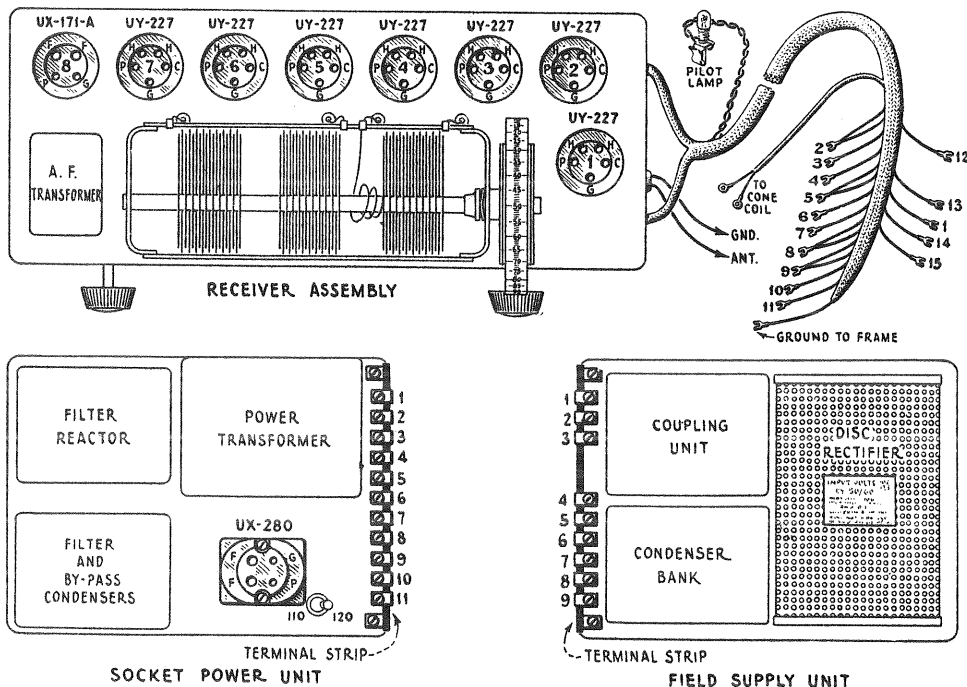
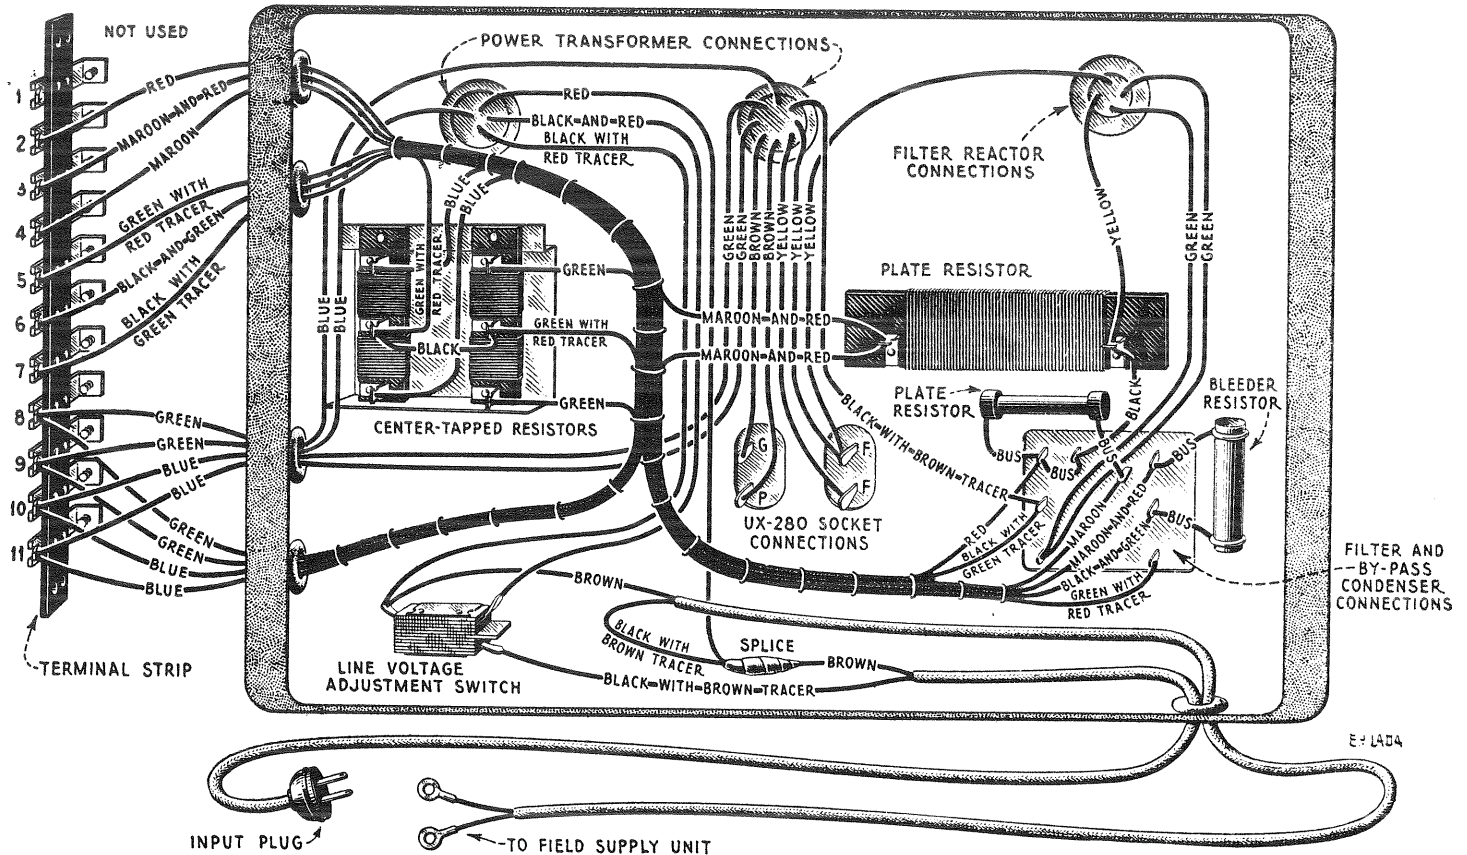
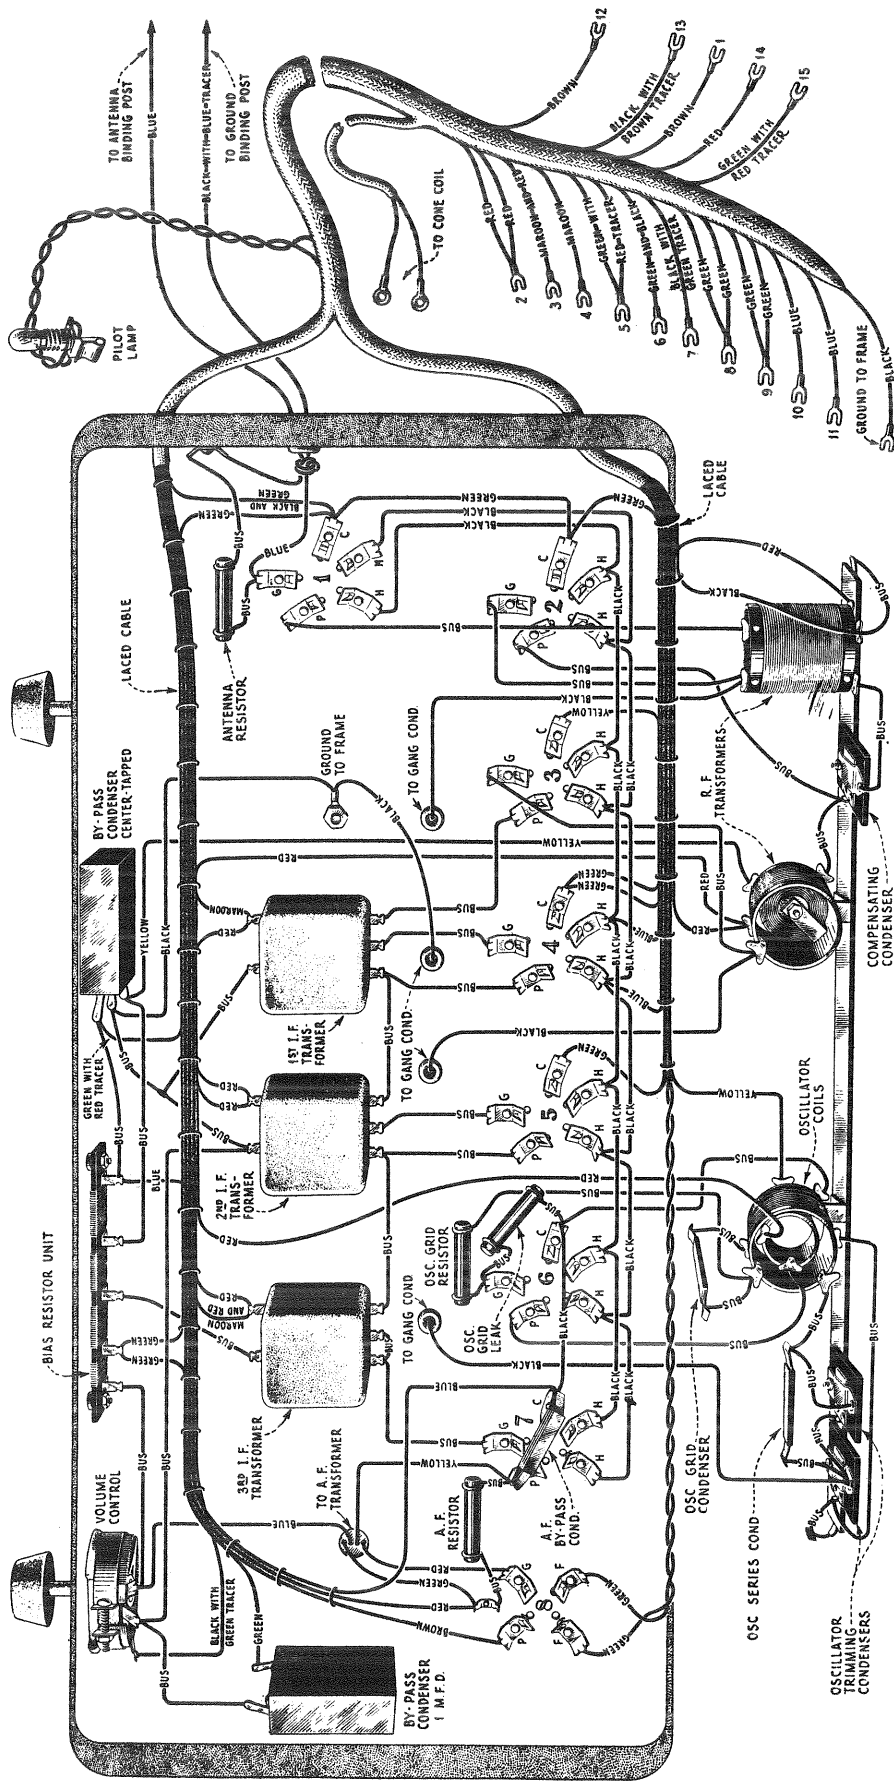

Figure 18—Radiotron socket contacts, location of parts, connection lugs and terminal strips of the socket power and field supply units
Figure 19—Continuity wiring diagram of the socket power unit
Figure 20—Continuity wiring diagram of receiver
A simple method of locating a shorted transformer is to use a resistance bridge or the resistance measuring method described in "Radiola 32 Service Notes." The approximate transformer primary D.C. resistance is 20 ohms; secondary 100 ohms. Due to the circuit arrangement it will only be possible to get a reading of 50 ohms on the secondary as the end connection goes to the neutralizing condenser and the reading must be made at the center tap connection. This test can be made from the underside of the chassis. (See wiring continuity diagram, Figure 20.)
After the I.F. transformers are properly tuned and neutralized they should perform at their maximum efficiency. It is a good plan to check the adjustments of the two oscillator trimming condensers (See Figure 20) at this point. The correct method
A pair of headphones with at least $4\frac{1}{2}$ volts in series, or a voltmeter with sufficient voltage to give a full scale deflection when connected across the battery terminals should be used in making these tests. The receiver Radiotron sockets, numbers and lugs used in these tests are shown in Figure 18. The receiver continuity wiring diagram is illustrated in Figure 20. The S.P.U. and field supply unit terminal numbers are shown in Figures 19 and 21.
See Figure 18 for cable lugs, terminals, and Radiotron socket contacts
The following voltages taken at each Radiotron Socket with the receiver in operating condition should prove of value when checking is done with test sets such as the Weston Model 537 Type 2 or others giving similar readings. The plate currents shown are not necessarily accurate for each tube, as the cable in the test set will cause some circuits to oscillate, due to its added capacity. Small variations of voltages will be caused by different tubes and line voltages. Therefore the following values must be taken as approximately those that will be found under varying conditions. These readings are equally applicable to Radiola 60. The numbers in column 1 indicate the tube socket numbers shown in Figure 18.
- (j) Remove the old volume control and fasten the new one in position by means of the two machine screws and nuts, and resolder the three connections. The correct connections of these leads are shown in Figure 20.
- (e) Resolder all connections in their correct position on the assembly. This is shown in Figure 20.